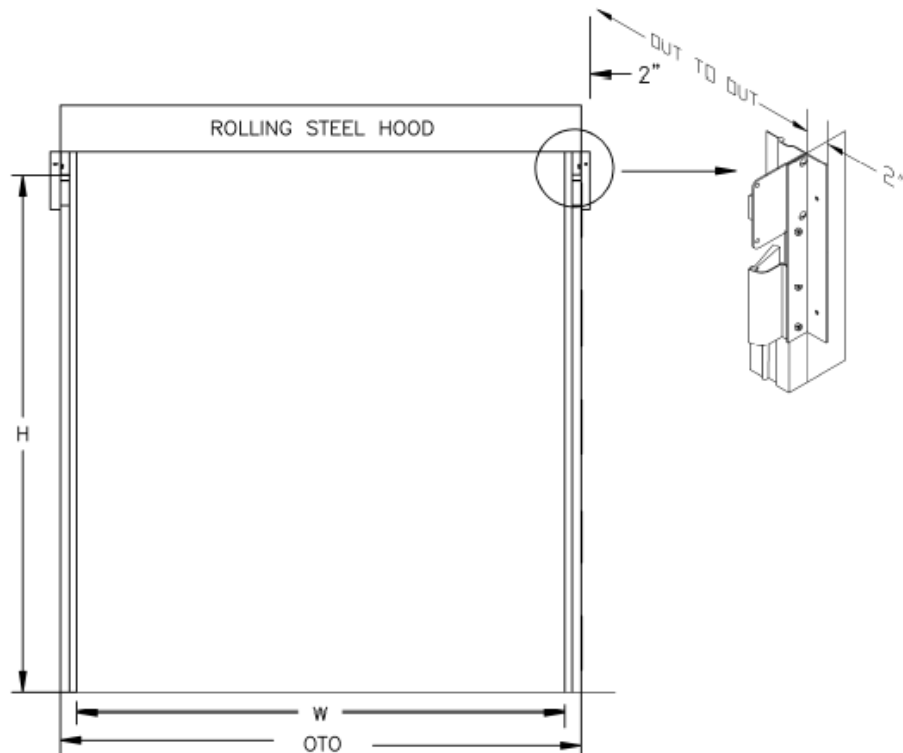

FIGURE 1
STEP 1. Your E-track door is manufactured so the OTO equals the width of the door, the OTO should be that the back of the Gateway track is flush with the back of the existing track. 14 gauge galvanized flat stock steel projection is going to be flat against the back of the rolling steel door (**See Fig. 1**).